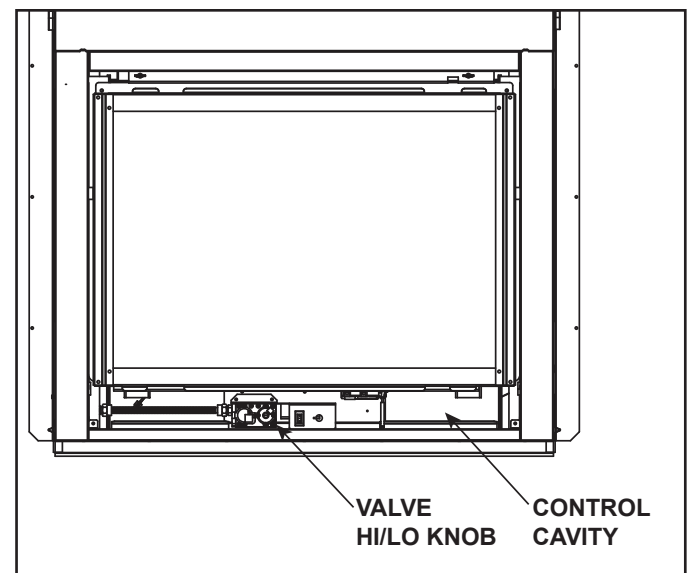

Figure 3.5 Control Cavity/Valve Location
The MDV3732-C model has a variable burn rate which is controlled by the HI/LO knob on the gas valve. Therefore the flame height is adjustable. The HI/LO knob is shown in Figure 3.5. It is located in the control cavity of the appliance. The HI/LO knob may be adjusted as desired by turning clockwise to the HIGH position and by turning counterclockwise to the LO position.
The IntelliFire® intermittent pilot ignition system comes with a battery backup system that enables the system to operate in a power outage. A factory-installed battery pack is located in the control cavity of the appliance. See Figure 3.5. Batteries should not be placed in the battery tray while using electrical power to operate the fireplace. Remove batteries from battery tray when power has been restored.
1. Access the control cavity of the appliance. See Figure 3.5 for location. The decorative front or door may need to be removed.